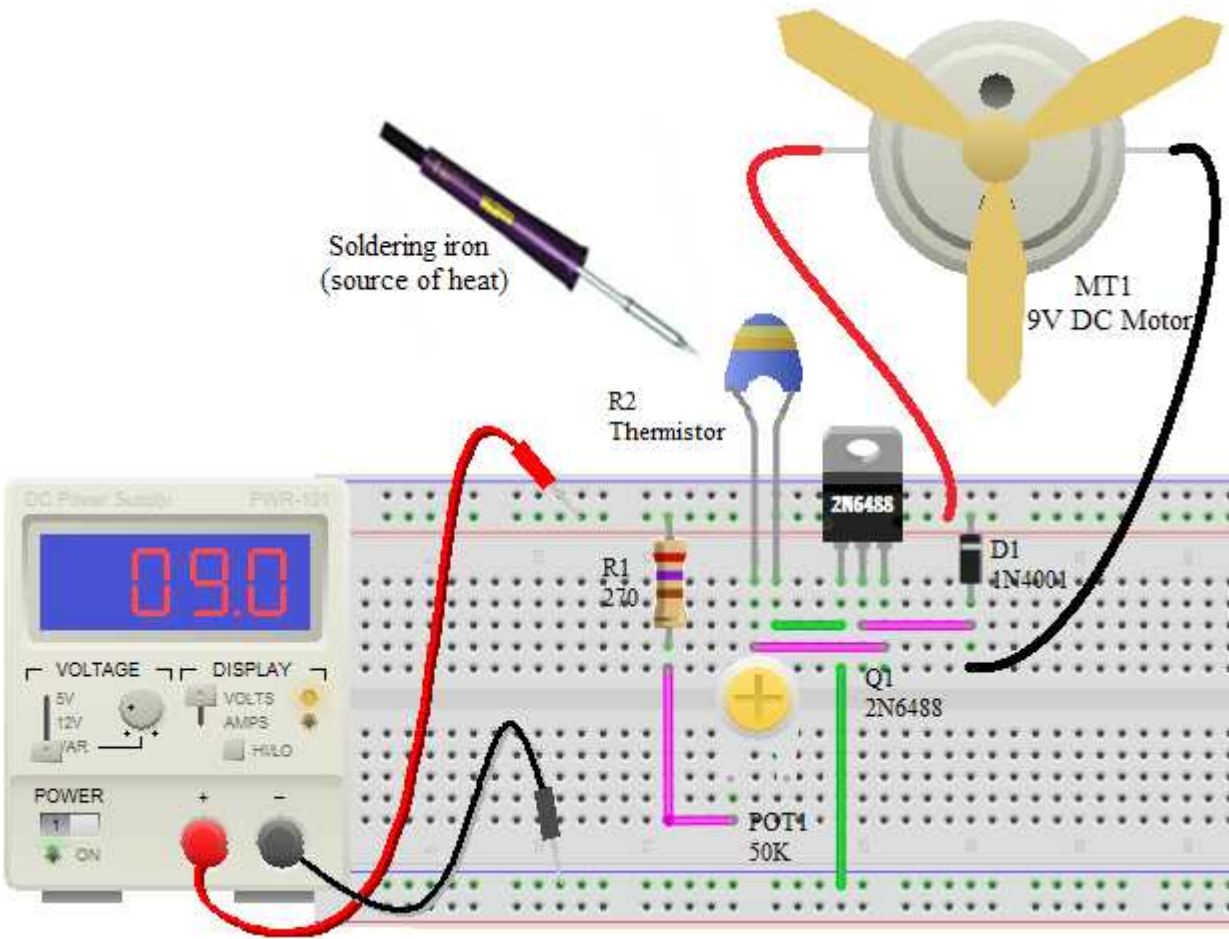

Figure 6-25: Transistor as switch with PTC thermistor for fan control circuit connection
1. Connect the circuit as illustrated in figure 6-25. Turn the potentiometer resistor POT₁ fully clockwise (high resistance = 50K). At this point the output should be off and the motor MT₁ stops.